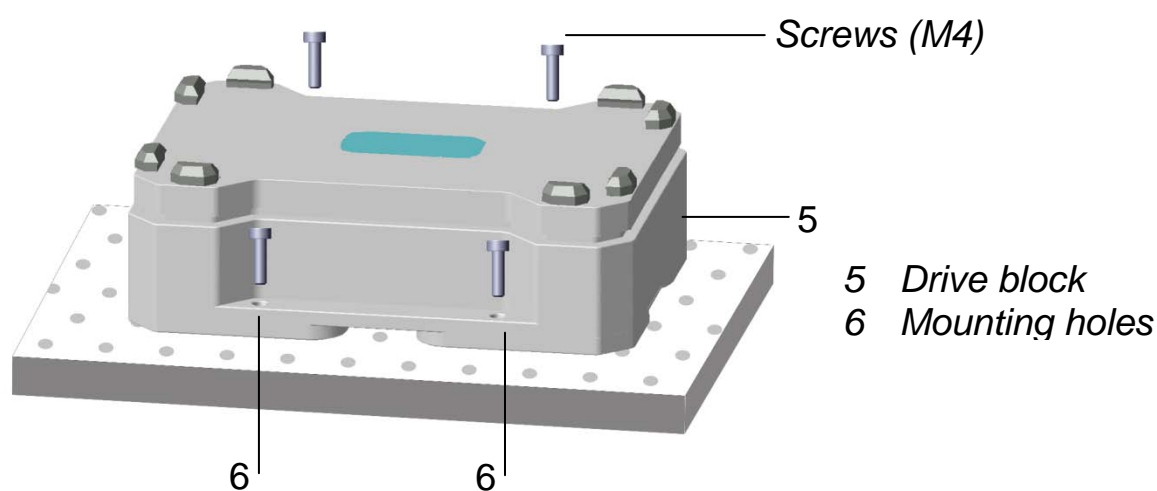

Figure 4: Mounting the magnetic shaker using the mounting holes
For safe operation, the magnetic shaker must be mounted in a fixed position in a precisely specified location (Figure 4). To do so, use the mounting holes (6) of the drive block (5). On page 35, you will find a diagram specifying the exact dimensions of the installation bores. The diagram is valid for all three device variants.
- ◆ Mount the magnetic shaker on the mounting surface (see Figure 4 and diagram on page 35).